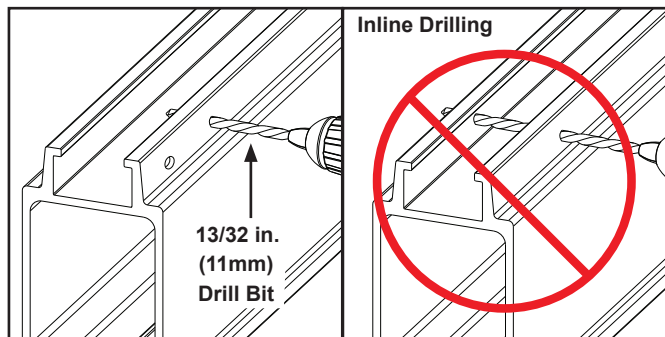

Figure 3-10
- Step 2. Drill two (2) holes using 13/32 in (11 mm) drill bit. Do not attempt to drill holes inline. Repeat process on opposite side of rail. See Figure 3-10